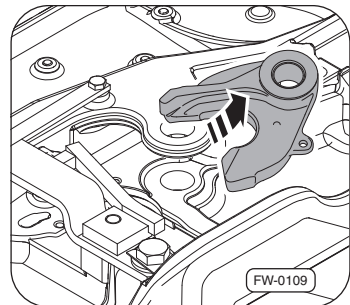

Fig. 33 · Dismantle the lock part
7. Remove coupler jaw Fig. 33, –arrow–.